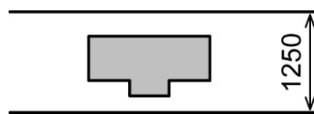

Figure 7-4
- (d) If the corridor width is 1250 mm, the shape of the corridor should be straight. (Figure 7-4)